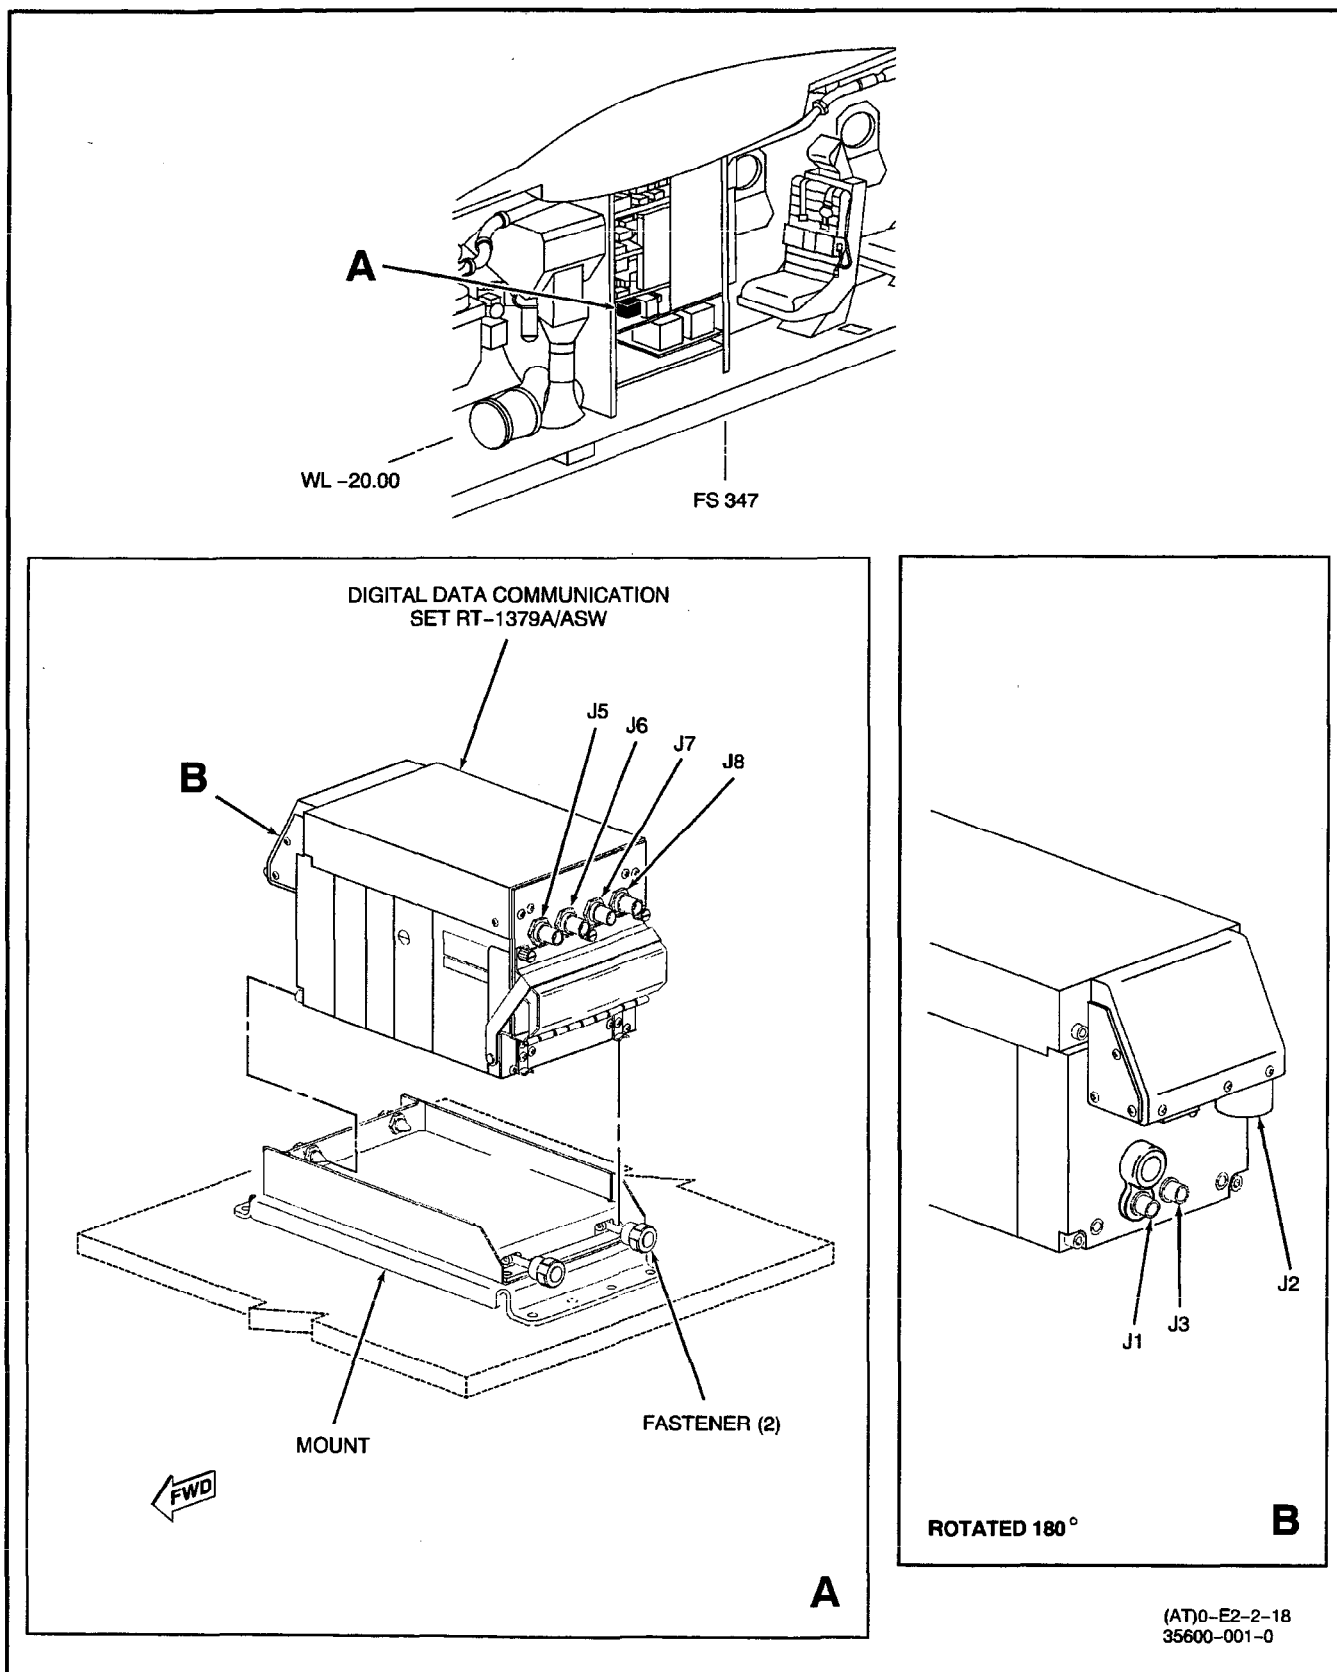

Figure 1. Removal and Installation of Digital Data Communications Set RT-1379A/ASW
**3. REMOVAL.** (Figure 1.)
4. **INSTALLATION.** (Figure 1.)